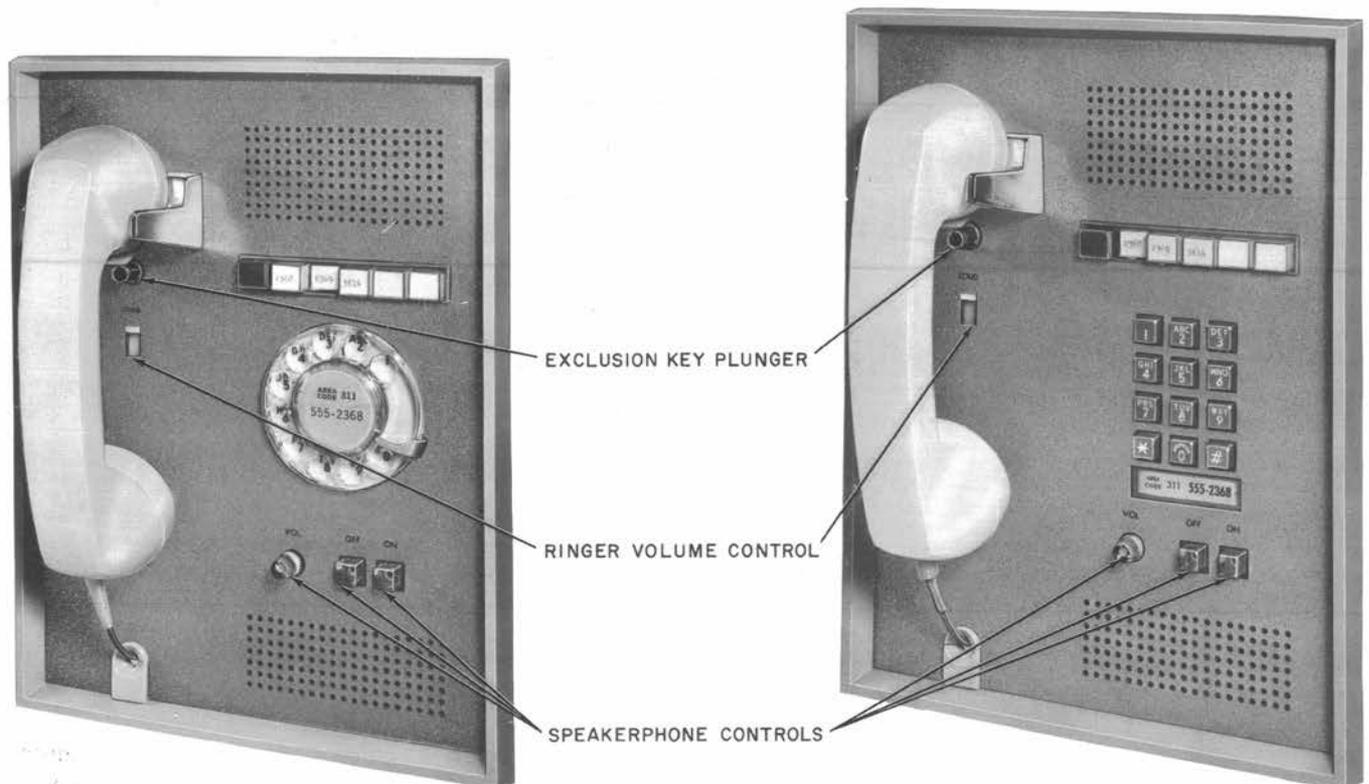

Fig. 1—752- (Rotary Dial) and 2752- (TOUCH-TONE®) Type Telephone Sets
2.02 Component parts (Tables A and B) of these telephone sets are mounted on a steel panel which is secured in an apparatus box. An aluminum mat retained by a plastic frame covers the panel and gives the installation a finished appearance (Fig. 1 and 2).